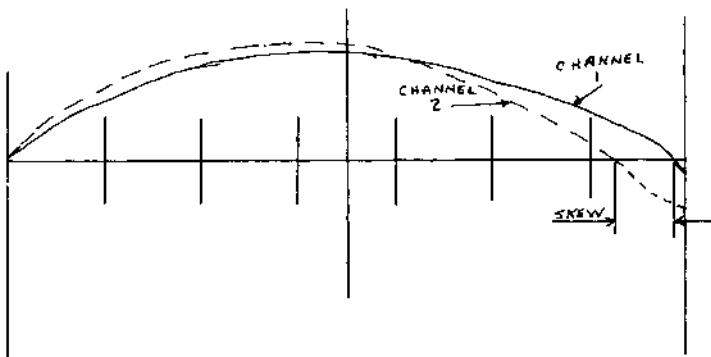

FIGURE 1
- (1) Plug in skew tester AFTER selecting source of V plus, see NOTES on S3 and TO USE: (5), S3.
- (2) Calibrate. See NOTES on S1 and TO USE: (5), S3.
- (3) Select correct split winding, see NOTES on S2 and TO USE: (5), S2.
- (4) Skew Test
- C. Skew is measured by measuring the time difference between the two signals crossing a given reference line. Figure 1. To test skew; with tape in motion, depress lightly on the back edge of the tape on the right or left sides of the head. Record which side causes the skew to increase when pressure is applied to one side or the other. If the real skew is greater than 7/16 sec, the head should be deskewed. This tolerance will apply to both TU55 and TU56 transports to gain an added factor of interchangeability of tapes. If the head is to be deskewed, it should be taken as close to zero as possible. If a non-zero skew is used, it must be formatted after each attempt to deskew.